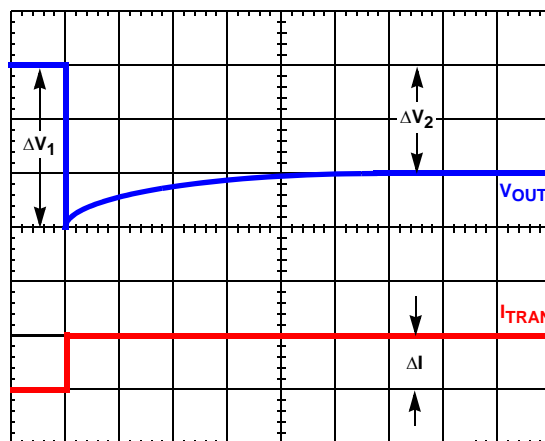

FIGURE 21. TIME CONSTANT MISMATCH BEHAVIOR
Due to errors in the inductance and/or DCR it may be necessary to adjust the value of  $R_1$  and  $R_2$  to match the time constants correctly. The effects of time constant mismatch can be seen in the form of droop overshoot or undershoot during the initial load transient spike, as shown in Figure 21. Follow the steps below to ensure the R-C and inductor L/DCR time constants are matched accurately.
3. Record  $\Delta V_1$  and  $\Delta V_2$  as shown in Figure 21.